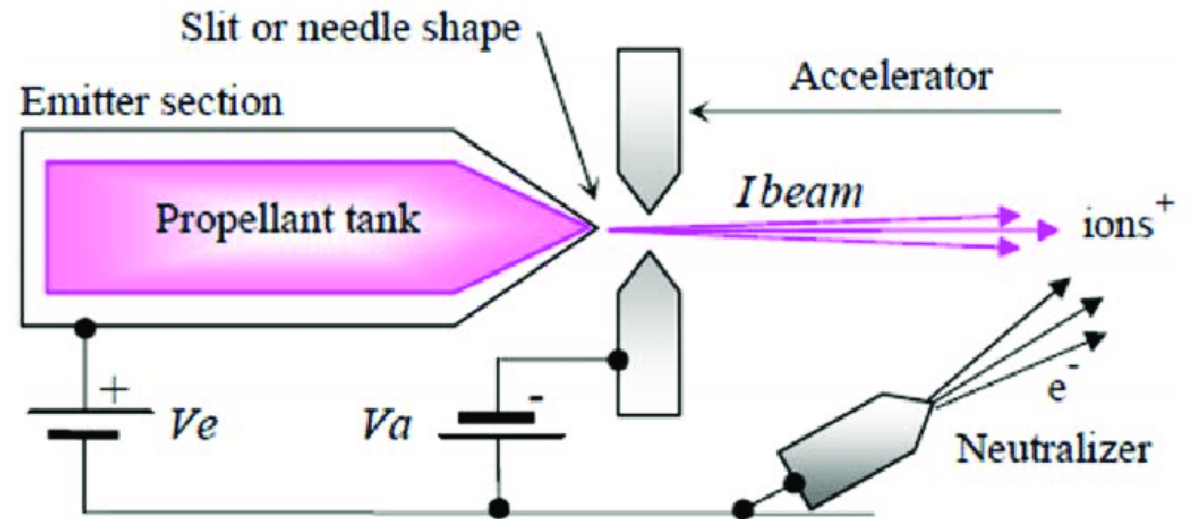

Figura 7: Schema di un FEED
- Figura 7, https://www.researchgate.net/figure/Schematic-of-FEEP-thruster-Image-source-Ceruti-et-al-2007_fig12_309292211